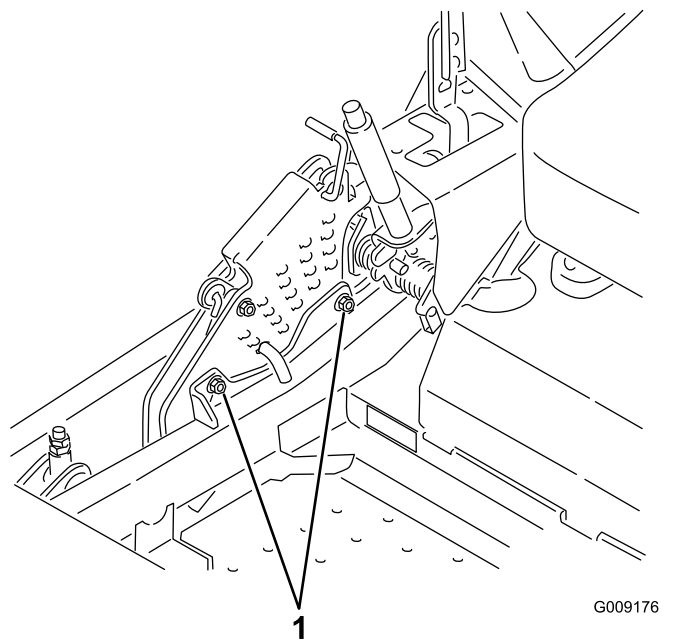

Figure 87
12. To adjust the single point system, loosen the two bolts at the bottom of the height of cut plate. Refer to Figure 87.
- Tighten the two bolts at the bottom of the height of cut plate (Figure 87). Torque to 27-33 ft-lb (37-45 N-m).